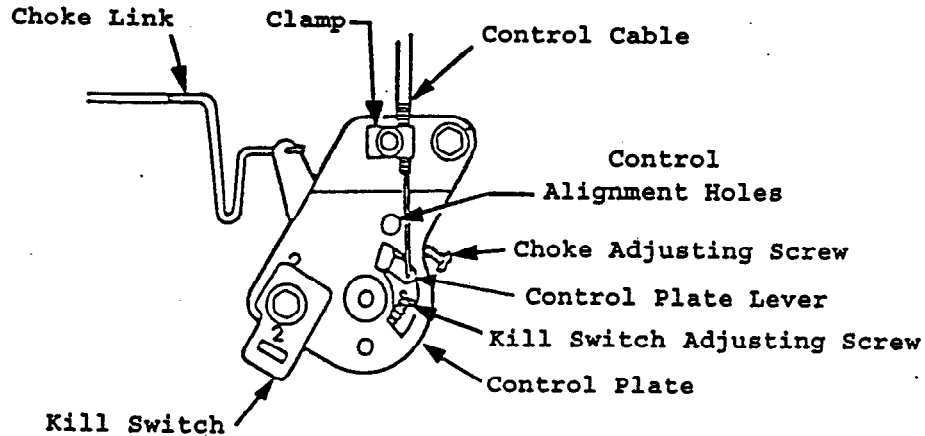

FIG 3
- c) Loosen clamp on engine control plate. (See Figures 3 and 4). Attach inner wire of the throttle cable to the control plate lever and position cable under clamp, do not tighten clamp.